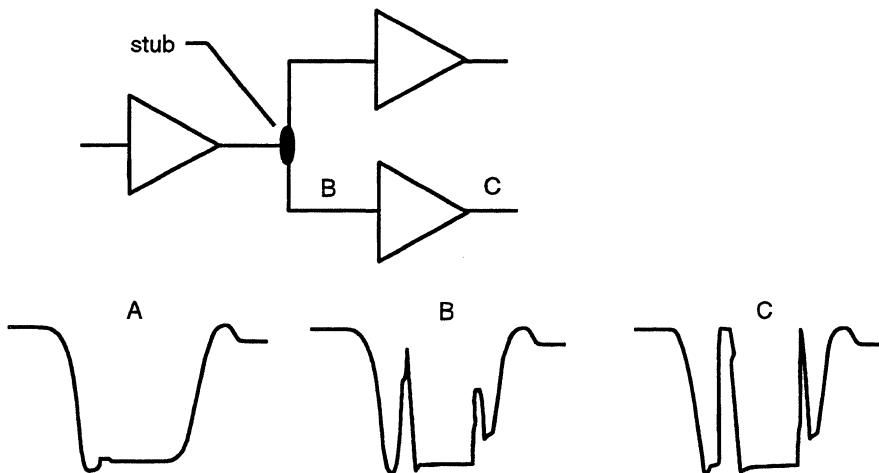

Figure 1-1 Effect of a tee (stub) on a buffer
Figure 1-1 shows the effects a stub can have on a buffer. The signals going into (A) the buffer and out from the buffer show sharp delineated wavefronts when there is no stub, with the output waveform looking very similar to the input. When you add a tee in the circuit, not only does the wavefront input to the buffer (B) become very ragged, but reflections can cause the output to switch falsely (C), thus sending an errant low-going signal down the line.